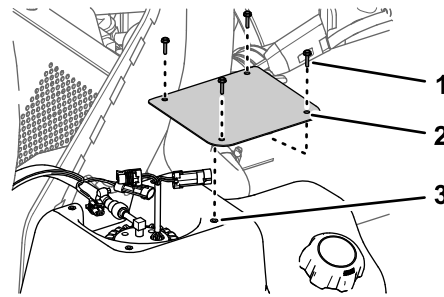

Figure 77
1. Assemble the cover to the tank (Figure 77) with the 4 screws (#10 x 3/4 inch) that you removed in step 2 of Removing the Fuel Pump Cover (page 57).